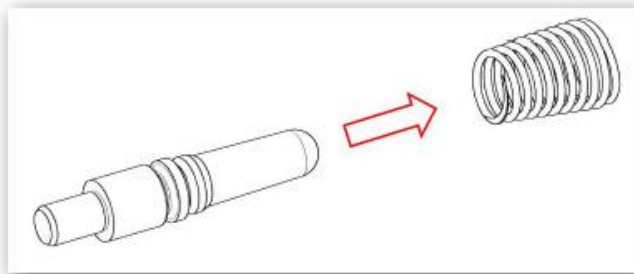

Figure 4
5. Detach the spring (5) from the pushrod (6), pulling axially and gradually. Rotate the spring on the pushrod during this operation to facilitate removal of the spring (see figure 4).